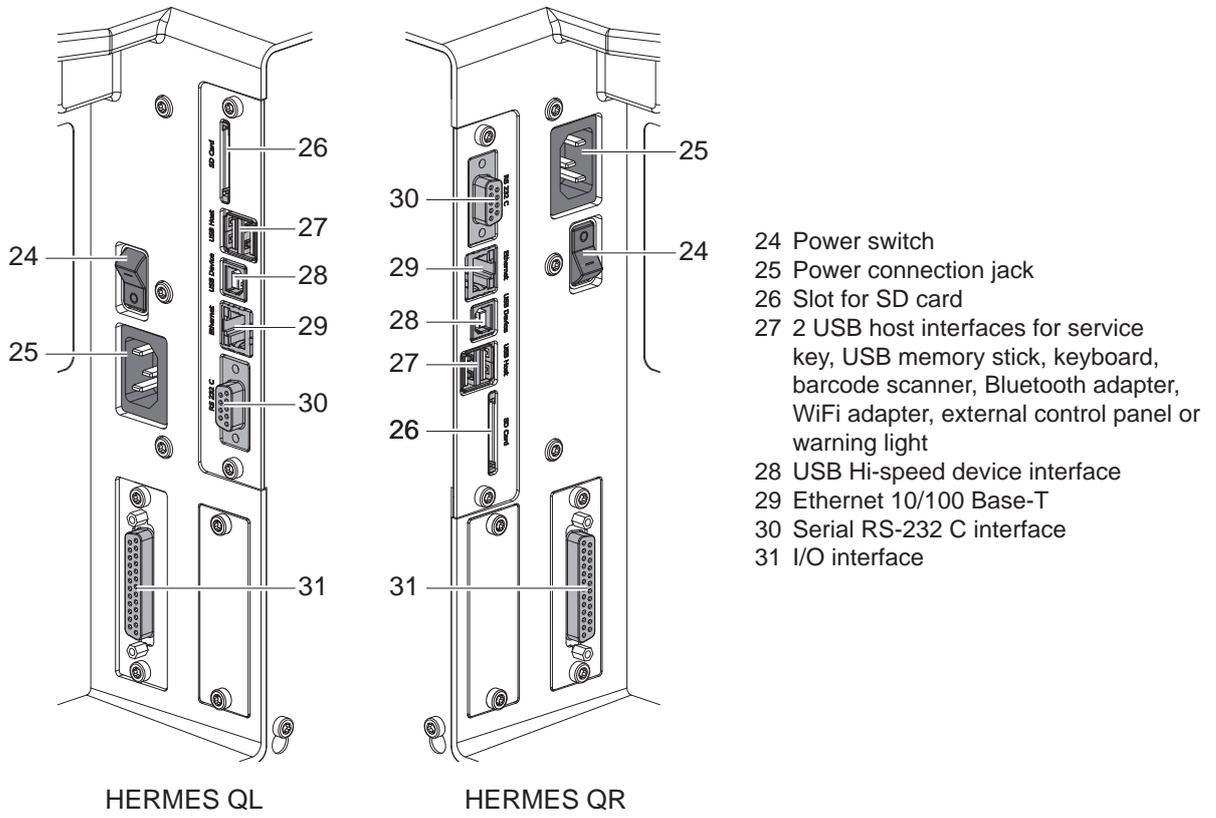

Figure 6 Connections
2. Plug the power cable into the power connection socket (25 / Figure 6).
- ▶ Switch the printer on at the power switch (24 / Figure 6).